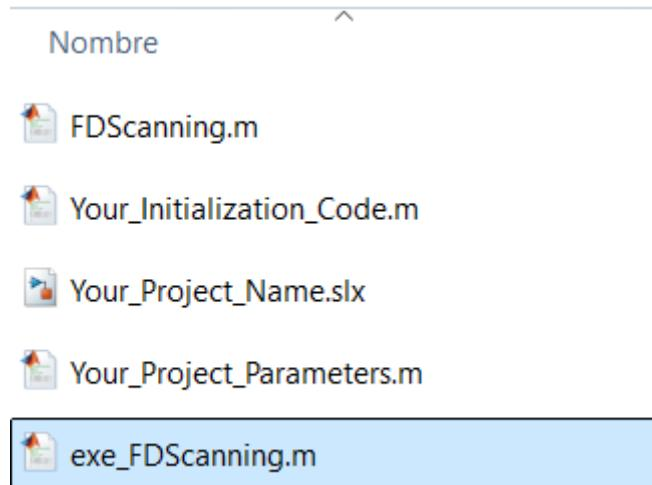

Figure 3. Copying the file *exe_FDScanning.m* to your working directory.
Also copy the *exe_FDScanning.m* file into the same working directory mentioned earlier (see Figure 3). Once the file is in place, open it to define the scanning and system identification parameters.
- `program`: This is where you insert the name of the .slx file containing the EMT model of the system to be analyzed. For example, in the application shown in Figure 3, the file name would be "`Test_Network.slx`".